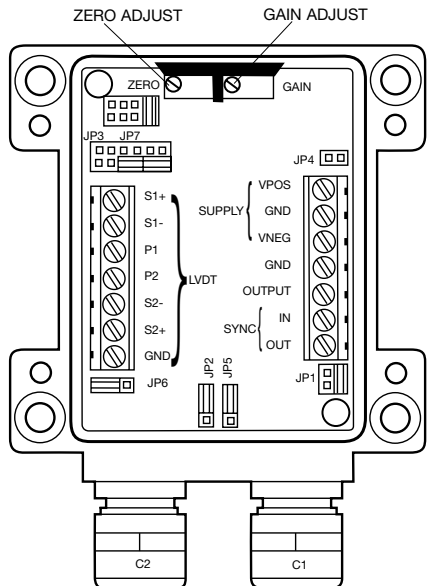

Fig. 1
- With the lid removed, unscrew the cable glands **C1** & **C2** (Fig.1). Pass the power supply/output signal cable through gland **C1** into 'SUPPLY' zone on UCM board. Connect the power supply and output connections to the terminals on the UCM board, as indicated below and shown in Fig.1.
- Pass the transducer cable through gland **C2** into 'LVDT' zone on UCM board. Connect the transducer to the terminals on the UCM board, as indicated below (based on transducer type) and shown in Fig.1.
- Locate header **JP7** on UCM board. (See Fig.1.)
Remove jumper from header **JP7 (LK3)**, and place on header **JP4** (See Fig.1.)